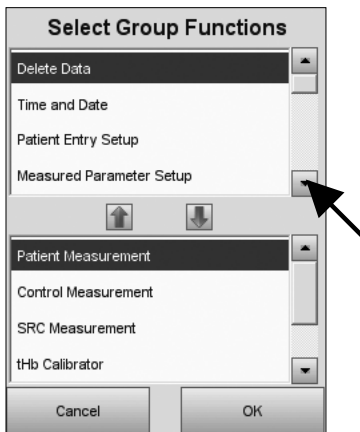

Fig. 3-64 Select Group Functions
6. Scroll down for the following additional options (Fig. 3-64):